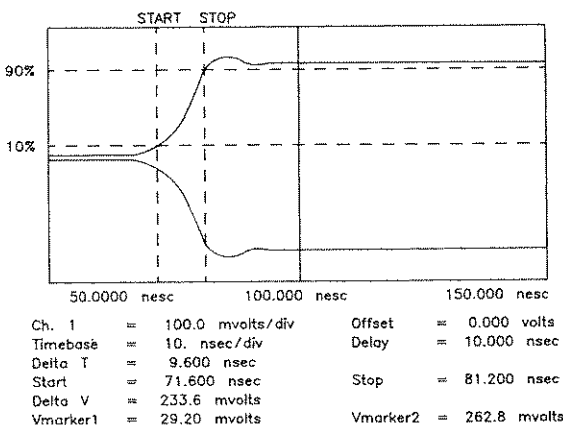

Figure 4-11. Oscilloscope Display
Figure 4-11 shows the RF Pulse as displayed on the oscilloscope. The Delta V markers are the approximate 10% and 90% Levels of the pulse envelope. The reading Δt is the Rise Time.
- Set the HP 8657B to the frequencies shown in the following Table. For each frequency measure the 10% to 90% Rise Time of the RF Pulse. The Delta V and Delta T Markers will require repositioning after each frequency change. To measure Fall Time will require a Shift Delay of +10 usec minimum on the oscilloscope to view the trailing edge of the pulse (including markers). Refer to Figure 4-11 for an example of the oscilloscope measurement display. The Rise and Fall Time should be within the limits shown in the Table.